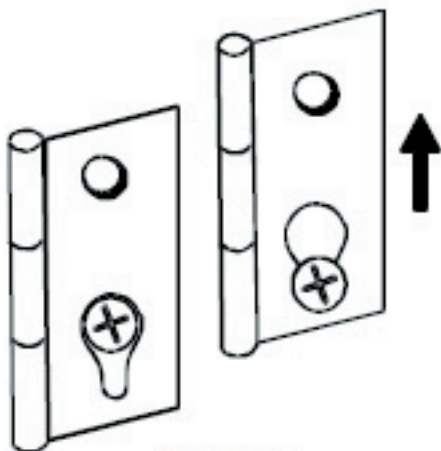

Fig. 2-22
15. Place the hinge over the screws and slide it up so the screw head fits into the smaller part of the keyhole and tighten the screws. (Fig. 2-22)